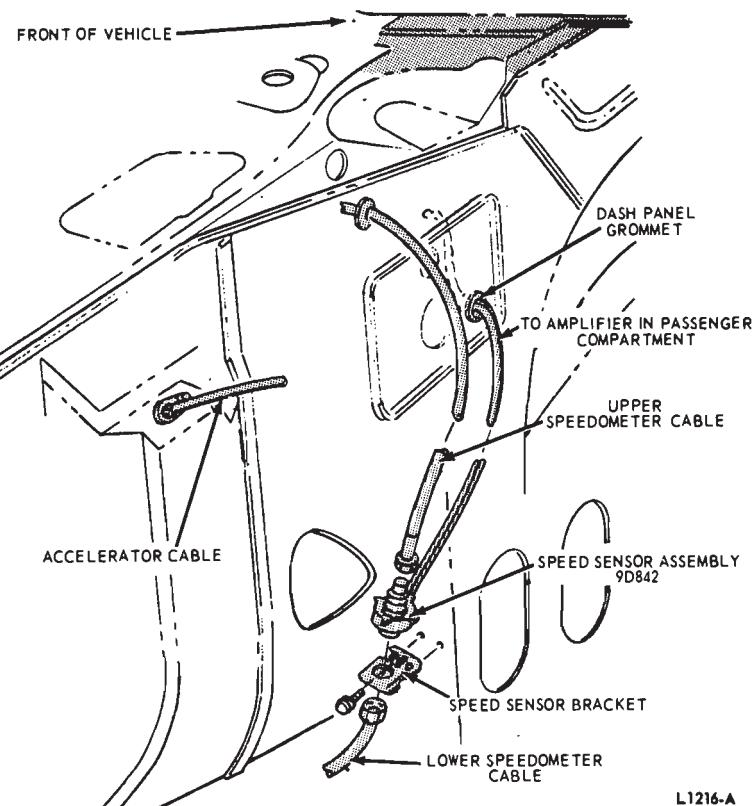

FIG. 7—Speed Control Sensor—Thunderbird
1. Separate the blue electrical connector leading to the amplifier assembly in the passenger compartment (Fig. 7).
2. Disconnect the upper and lower speedometer cables at the speed sensor in the engine compartment (Fig. 7).
1. Attach the speed sensor and sensor bracket to the dash panel with the four attaching screws (Fig. 7).